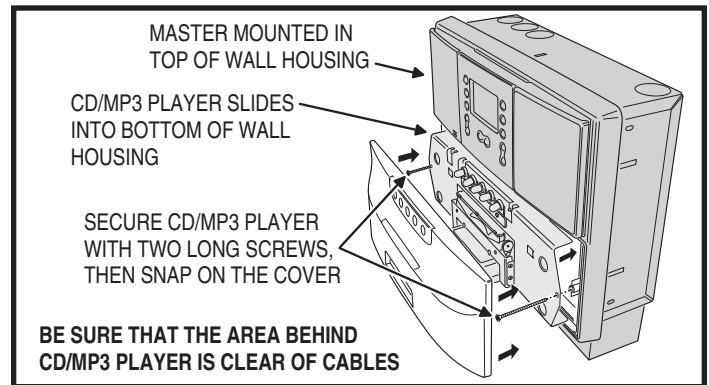

Figure 27. CD/MP3 Player into Wall Housing
13. Attach the CD/MP3 Player to the wall housing using the two long screws provided as shown in Figure 27. **DO NOT OVERTIGHTEN THE SCREWS THE FRAME MIGHT DISTORT OR CRACK!**
14. Install the CD/MP3 Player faceplate by pressing it onto the player (see Figure 27).